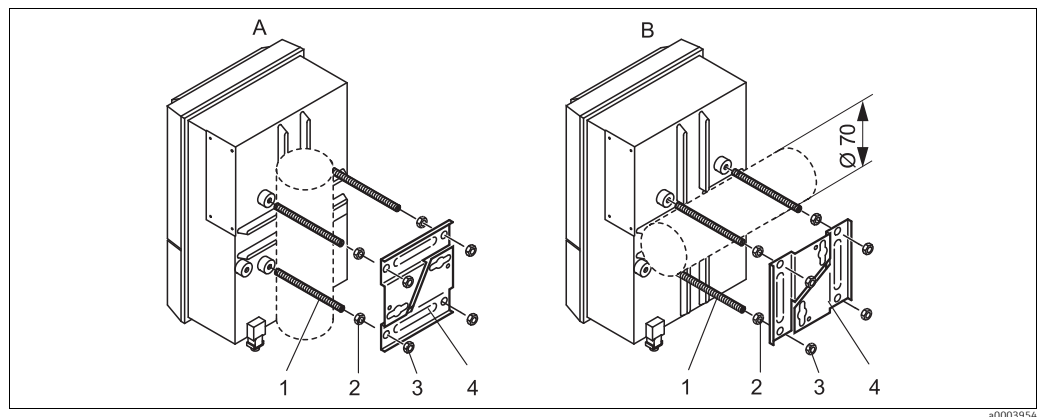

Fig. 11: Post mounting
1. Screw the four securing screws (item 1) into the threaded openings on the transmitter.
2. Counter every securing screw with a nut (item 2).
4. Push the securing plates (item 4) onto the securing screws in accordance with Abb. 11.
5. Screw a nut (item 3) onto each securing screw and tighten it so that the transmitter is securely fastened to the post or pipe.